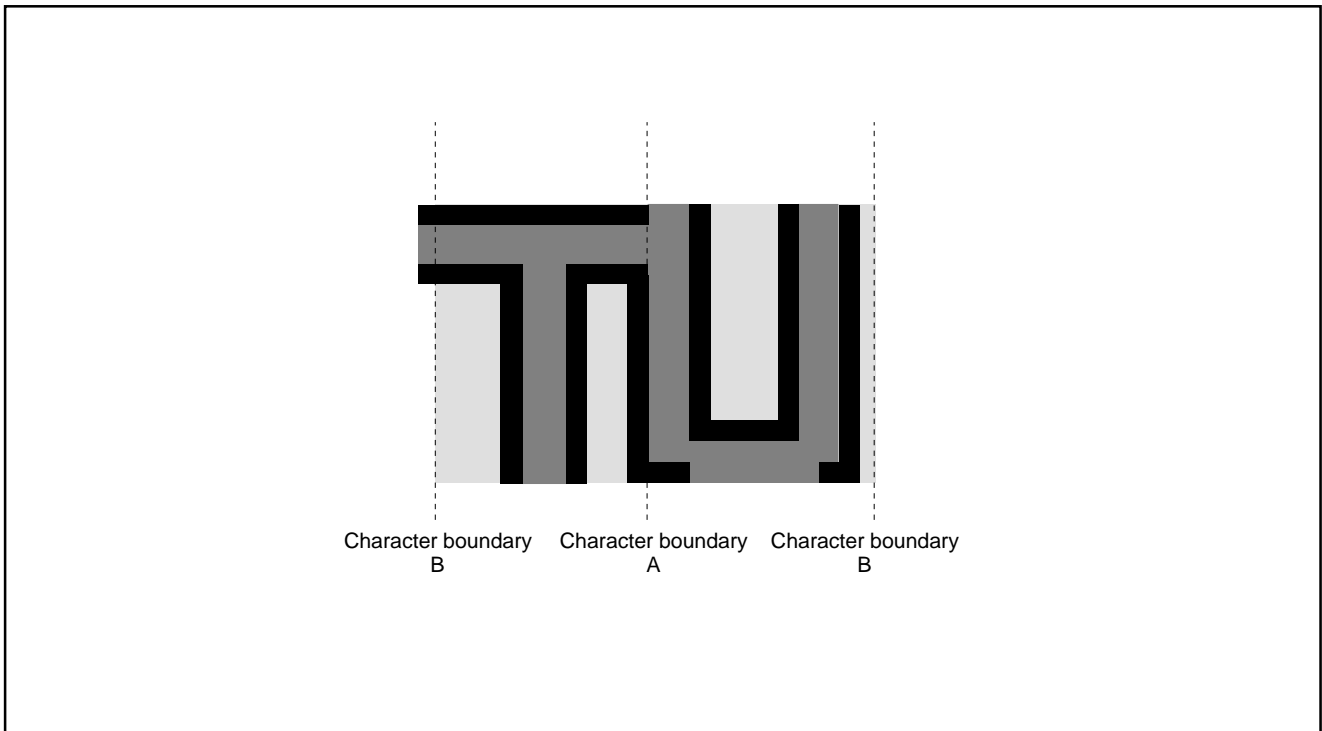

Fig. 8.11.22 Border Priority
- 2 :** When the border dot overlaps on the next character font, the character font has priority (refer to Figure 8.11.22 A).
When the border dot overlaps on the next character back ground, the border has priority (refer to Figure 8.11.22 B).
- 3 :** The border in vertical out of character area is not displayed (refer to Figure 8.11.22).